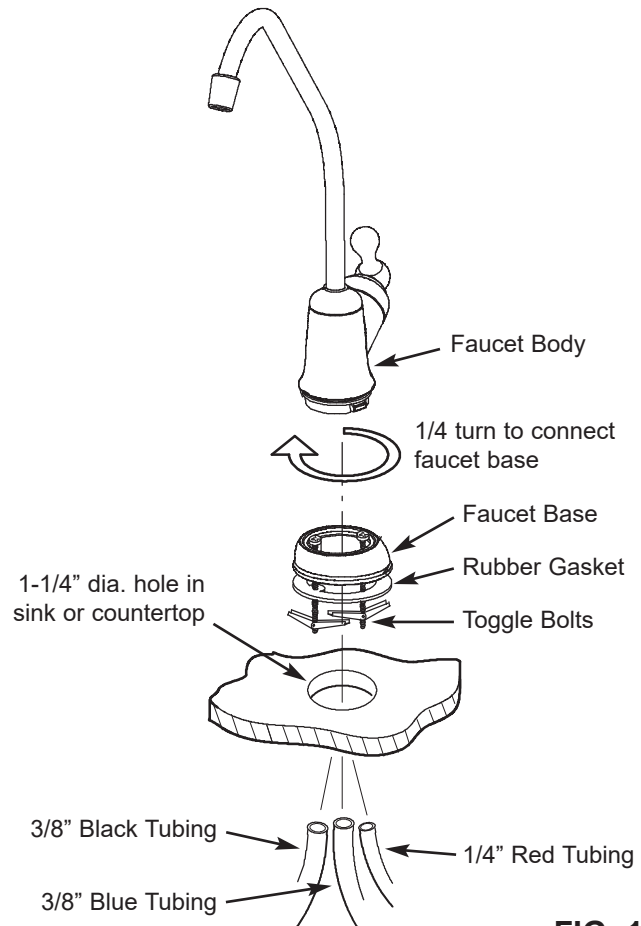

FIG. 16
1. Locate and organize your RO faucet install parts. Refer to Fig. 16.
6. Feed a length of 3/8" black tubing up through the hole and connect to the 3/8" barb on the bottom of the faucet. See Figure 16. The other end of this tubing will be connected to the drain, as shown on page 15.
7. Mount the faucet body on to the faucet base, 1/4 turn. See Figure 16.